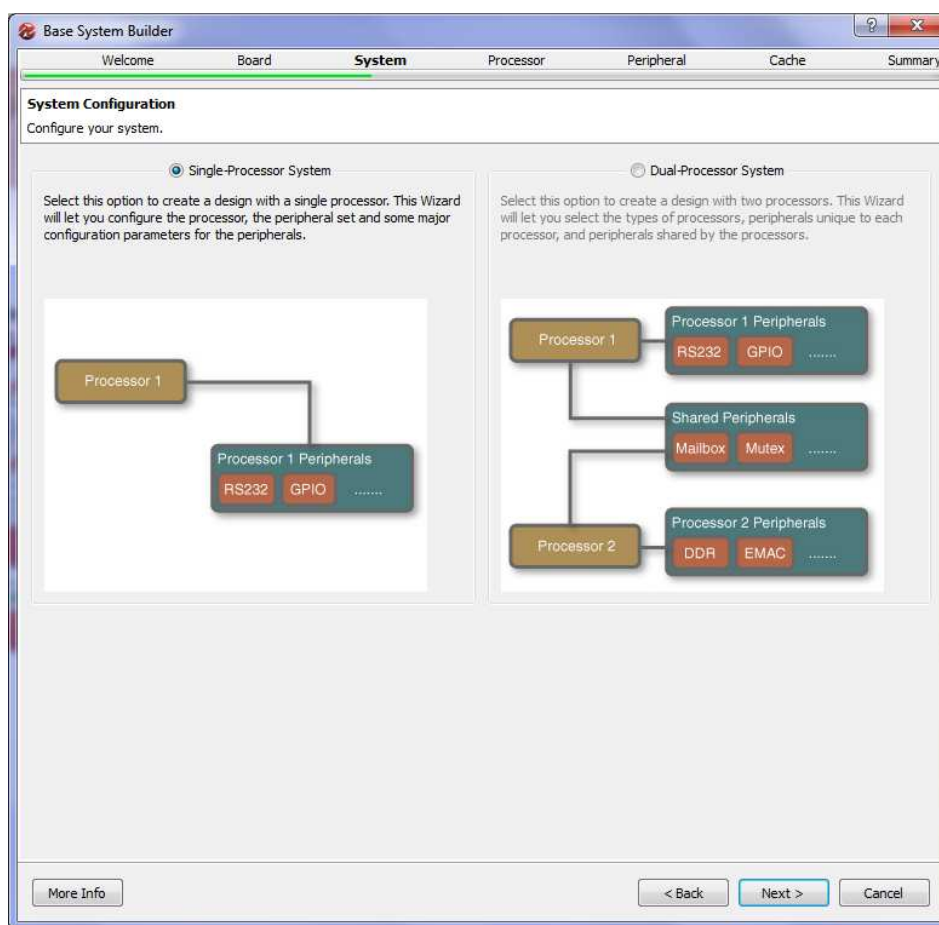

Figure 6. Select System Architecture (Step 6)
Step 6: The following step is to select the system type. This is shown in Figure 6. The XPS allows us to choose between two types of system architecture: